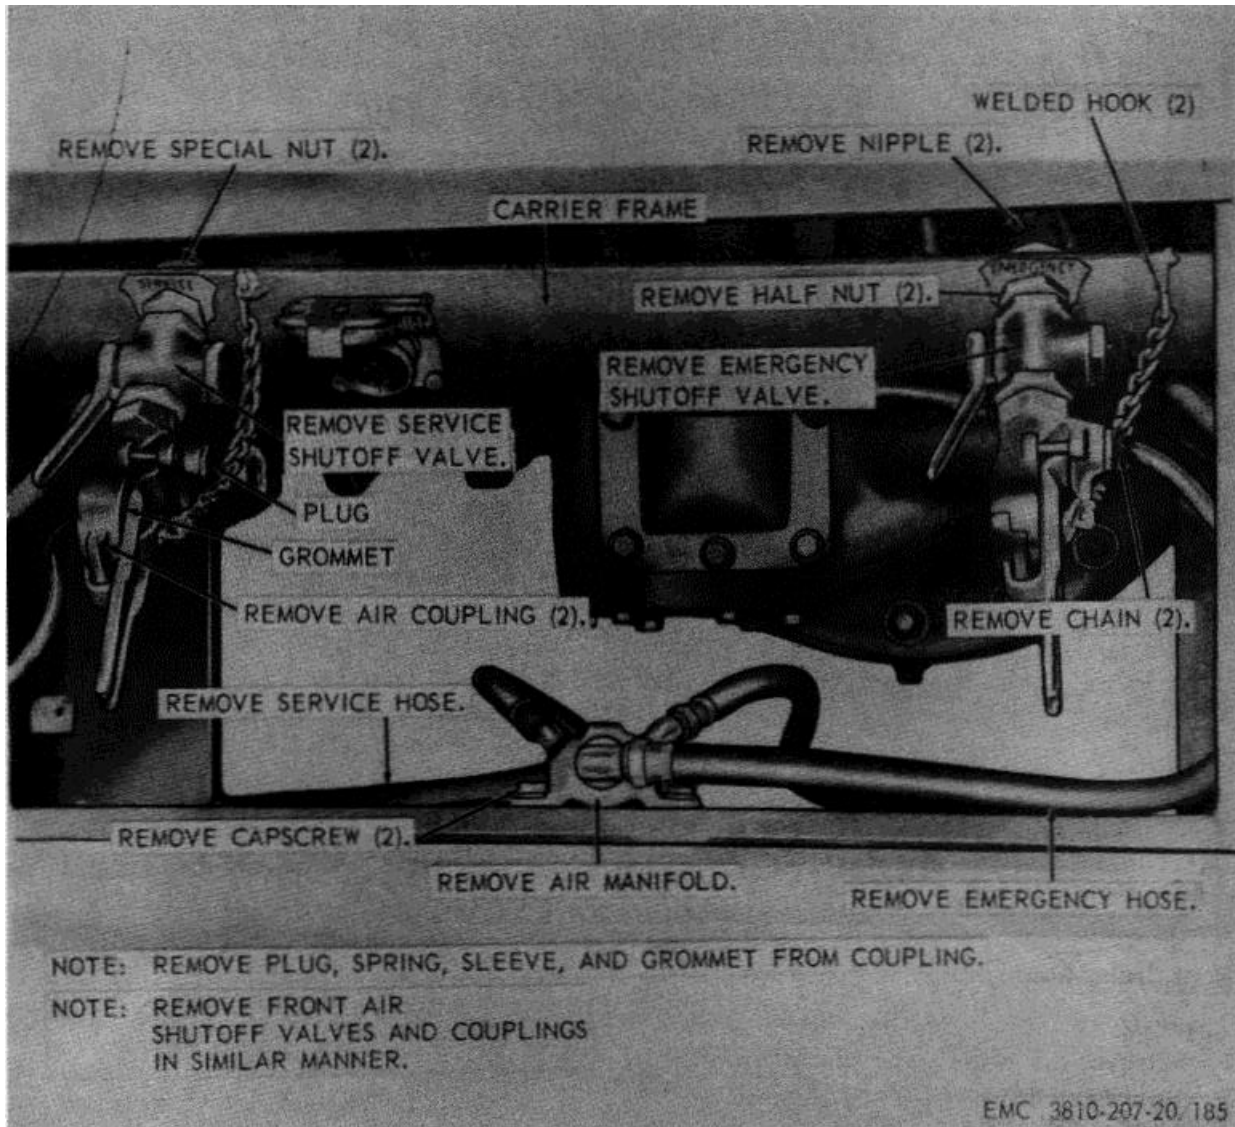

Figure 185. Rear air shutoff valves and air manifold, removal and installation.
a. *Removal.* Remove the rear air manifold as instructed on figure 185.
- (1) Clean all parts with an approved cleaning solvent.
- (2) Inspect the air manifold for proper operation. Replace a defective air manifold.
- (3) Inspect all fittings and mounting hardware for stripped or damaged threads. Replace as necessary.
- (4) Inspect all hoses for cracks, breaks, and deterioration. Replace as necessary.
c. Installation. Install the rear air manifold as illustrated on figure 185.
a. Removal. Remove the air emergency and service shutoff valves as instructed on figure 185.
- (2) Inspect the air emergency and service valves for proper operation. Replace defective valves as necessary.
- (3) Inspect all nipples and mounting hardware for stripped or damaged threads. Replace all defective parts as necessary.
- (4) Inspect the coupling for breaks and other damage. Replace coupling and defective parts.
c. Installation. Install the air emergency and service shutoff valves as illustrated on figure 185.